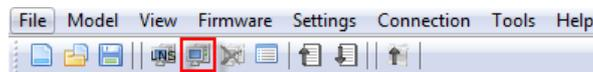

Figure 11: L-DALI Configuration Software, Connect to device
1. Select the FTP connection method by clicking on the **Connect to device** button in the tool bar as shown in Figure 11.